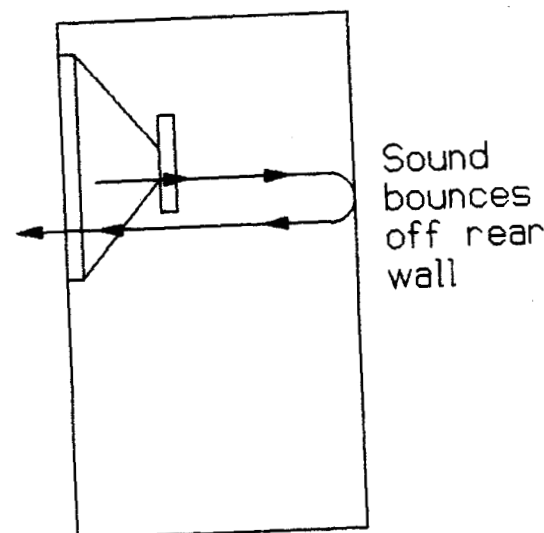

FIGURE 12-16: Sound from rear of woofer reflects off rear wall and radiates through driver.
**BAFFLING.** One of the major problems with most enclosures is a flat wall directly behind and parallel with the driver. Sound radiated from the rear of the driver strikes this wall and is reflected back out through the cone (Fig. 12-16).